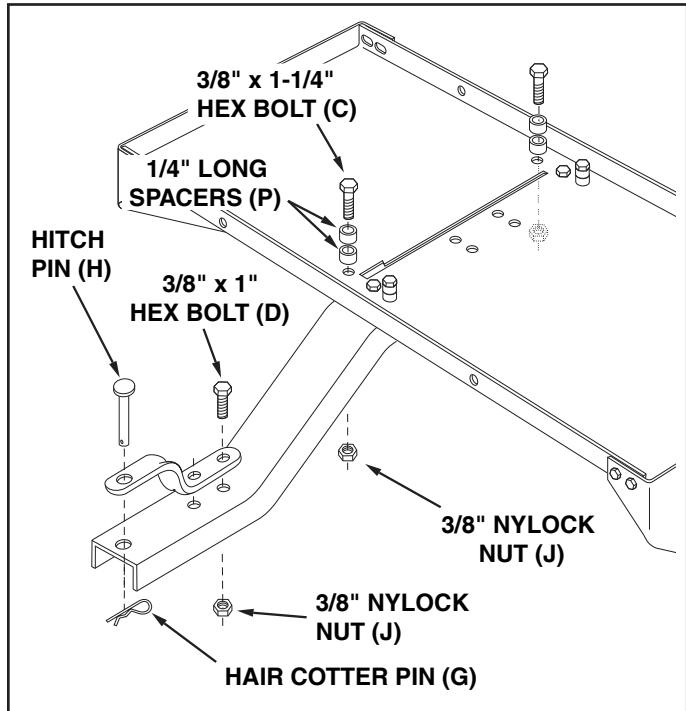

FIGURE 8
11. Assemble two 3/8" x 1-1/4" hex bolts, four 1/4" long spacers, and two 3/8" nylock nuts to the holes on the right side of the slot in the tray. **Tighten**. See figure 8.
12. Assemble the hitch bracket to the tongue using two 3/8" x 1" hex bolts, and two 3/8" nylock nuts. **Tighten**. See figure 8.
13. Assemble the hitch pin through the hitch bracket and the tongue. Secure the hitch pin with the hair cotter pin. See figure 8.